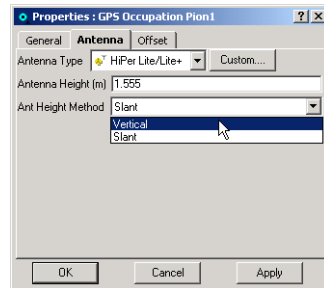

Figure B-30. Edit Antenna Properties
2. Click the *Antenna* tab and enter the new antenna height value (for example, 1.555m). Change the method of measurement for antenna height from slant to vertical (Figure B-30).